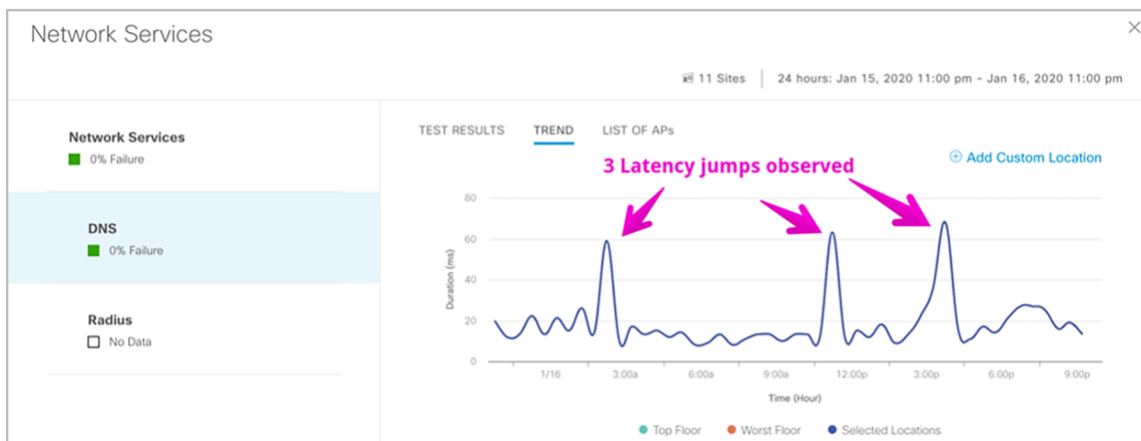

Figure 88.
- r. Click the DNS heatmap under the Network Services category to switch to a drilled-down view (**Figure 88.**)